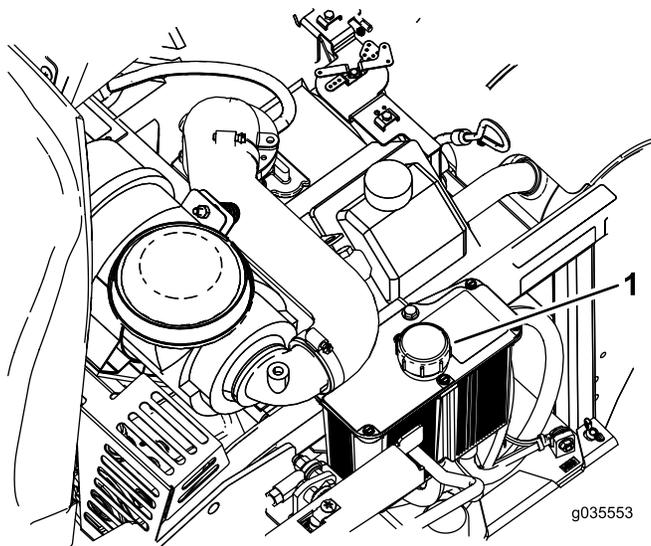

Figure 67
6. Clean the area around the dipstick of the hydraulic-system reservoir (Figure 67).
7. Remove the dipstick from the hydraulic reservoir (Figure 67).